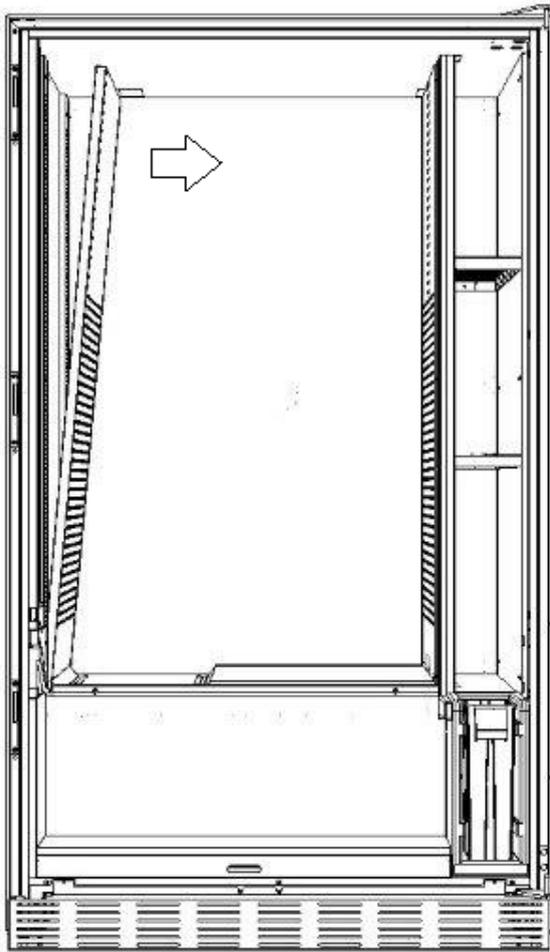

fig. 8
- Act on the top part of the perforated side-panel by pulling it towards the inside of the machine as in **fig. 8**.